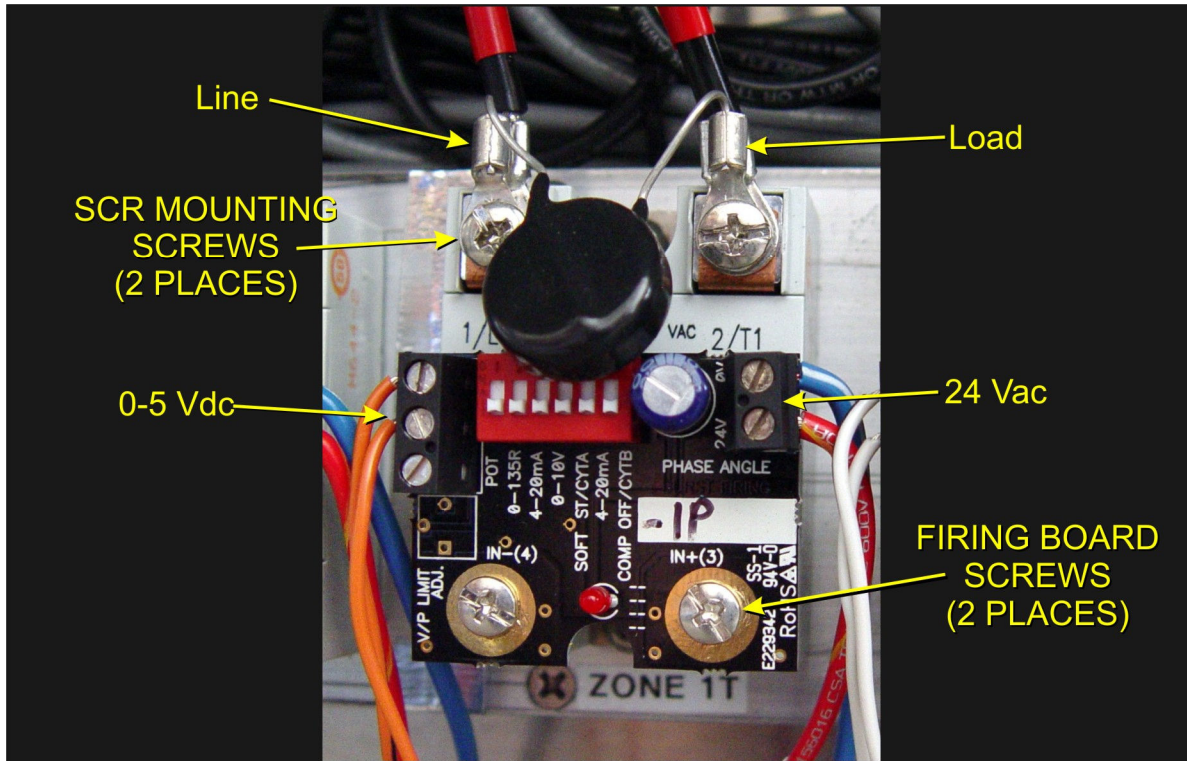

Figure 4-45 SCR installed
To remove the entire SCR assembly, disconnect the 10Vdc and the 24 Vac wire pairs. Unscrew the Line and Load wires. If you are only replacing the firing board, remove the (2) firing board screws. If you are removing the entire assembly, remove the (2) SCR Mounting screws. See **Figure 4-45 SCR installed**